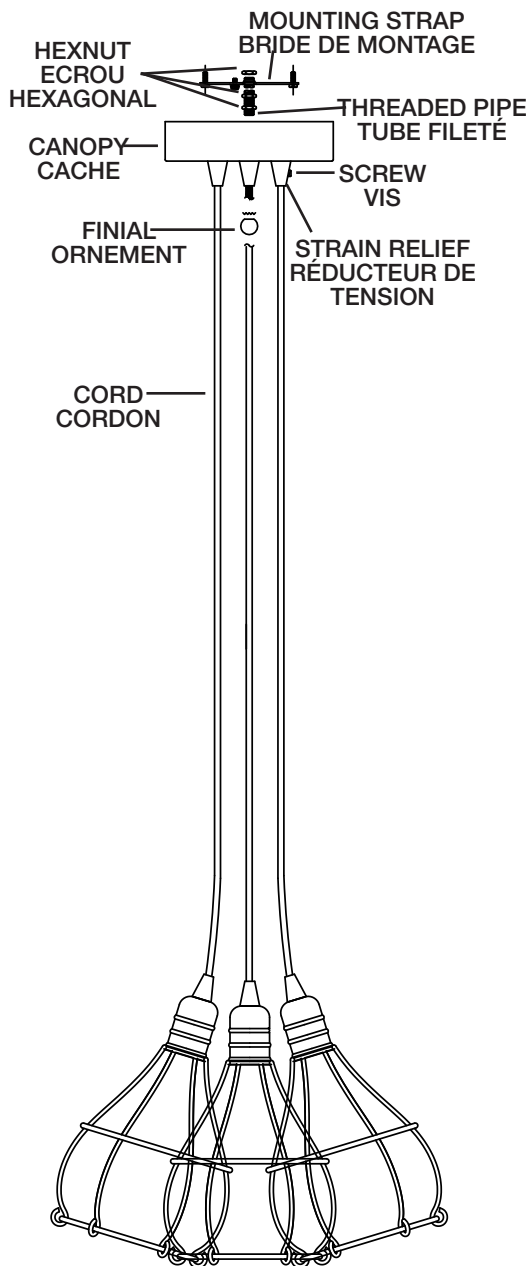
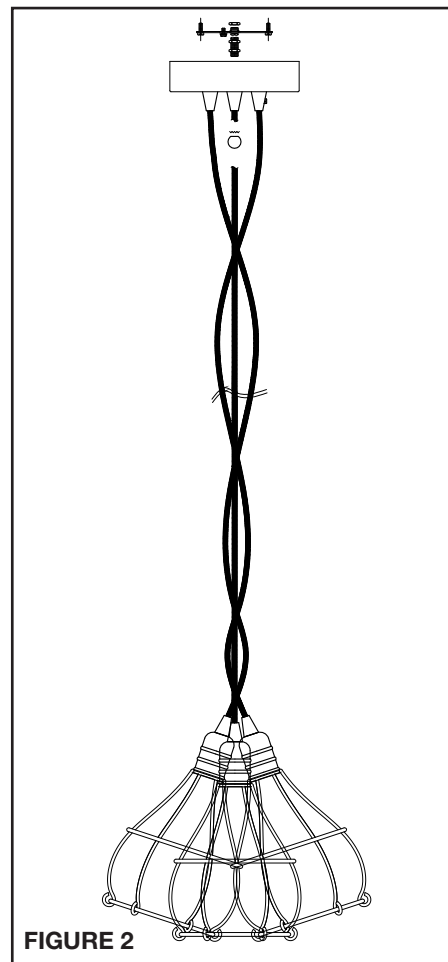

FIGURE 1
FIGURE 2
- 10) Fixture may hang with cords straight as shown in Figure 1 or cords may be woven together as shown in Figure 2.